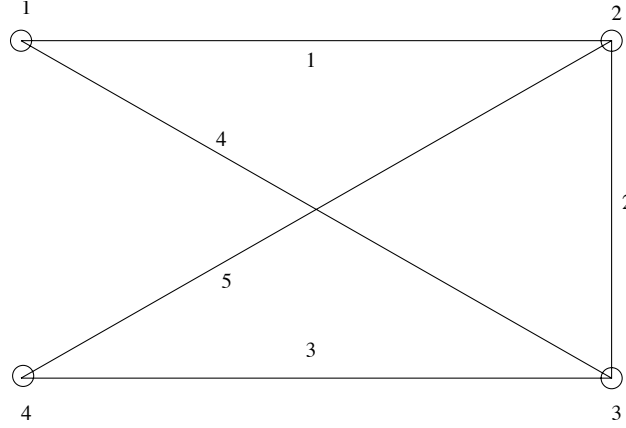

Figure 2: Truss with $N = 4$ nodes and $m = 5$ bars.
For example, consider the truss in Figure 2. The matrix A for this example is
and equation (2) for the truss in Figure 2 is given by